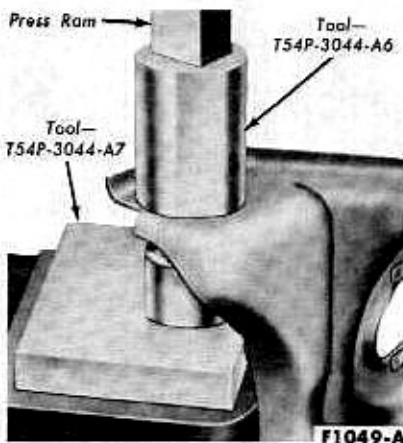

FIG. 11—Lower Arm Bushing Installation
2. Press new bushings into the arm with the tools shown in Fig. 11. The bushing flanges must be at the inner side of the lower arm.